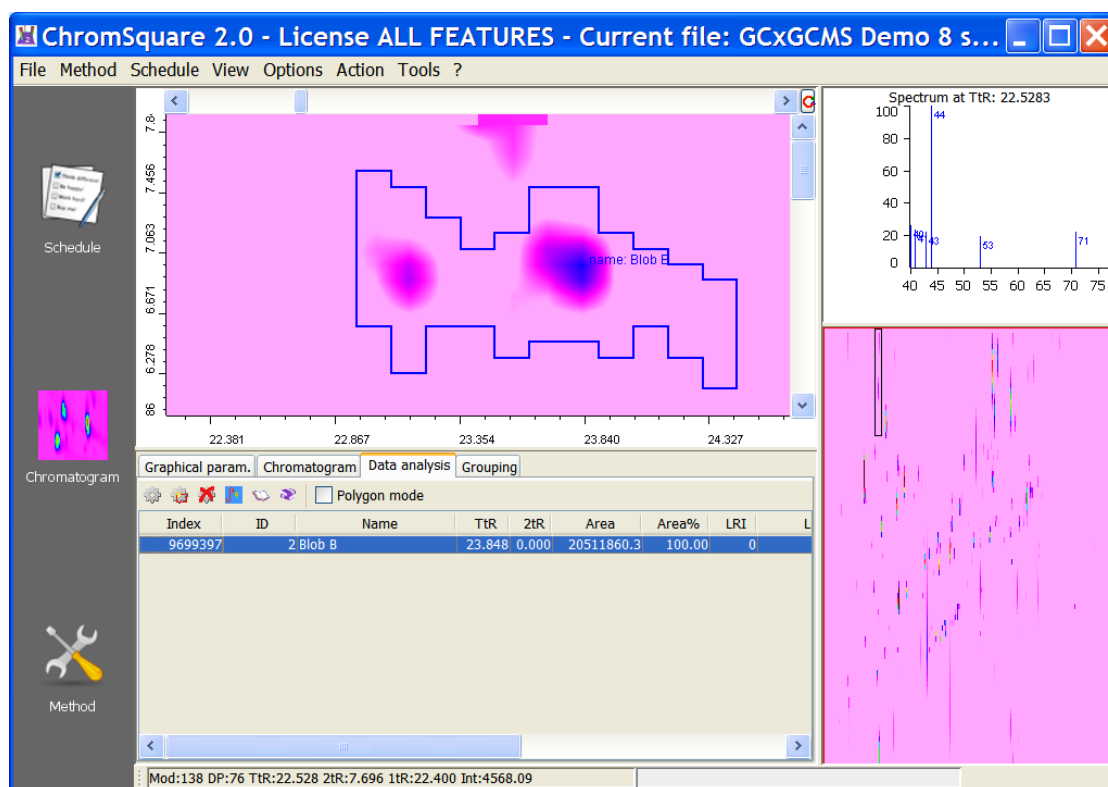

Figure 12.11: Adding a Peak to a Blob: results
6. The result of the merging operation will be immediately displayed, both on the Map View and on the Data Analysis table, as shown in Figure 12.11.